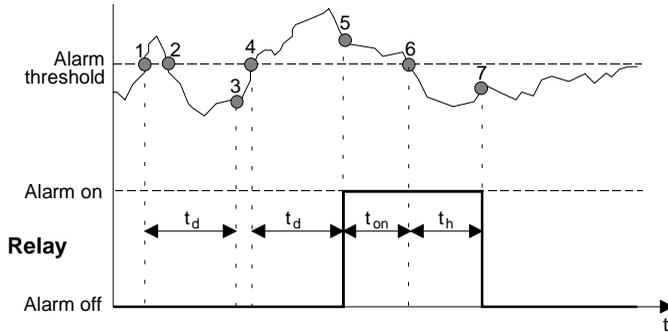

Figure 2: Switching behavior of the relay
Figure 2 shows the switching behavior of the built-in relay. At point ① the adjusted threshold was exceeded. Now the delay time  $t_d$  starts. It can be adjusted at the front panel between 0 and 20 s. Since the